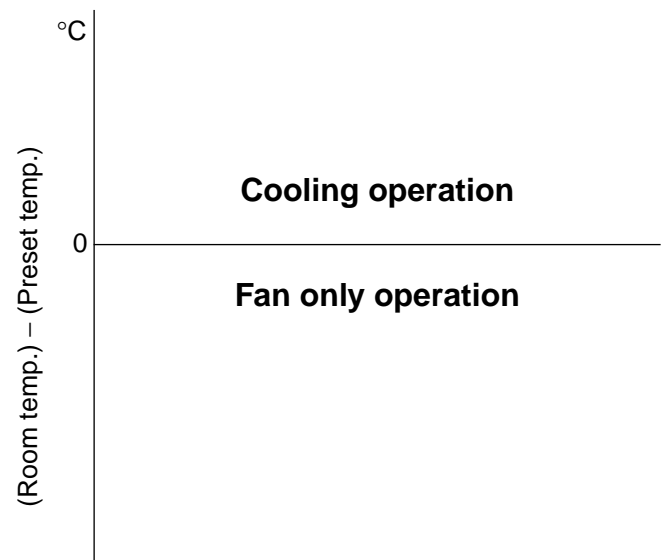

Fig. 7-3-6
- (1) One of 2 operations (Cooling or Fan only) is selected according to difference between the preset temperature and the room temperature at which the automatic operation has started, as shown in Fig. 7-3-6. The Fan only operation continues until the room temperature reaches a level at which another mode is selected.
- (2) Temporary Auto
When the [RESET] button on the indoor unit is pushed, the preset temperature is fixed at 24°C and the indoor unit is controlled as shown in Fig. 7-3-6.